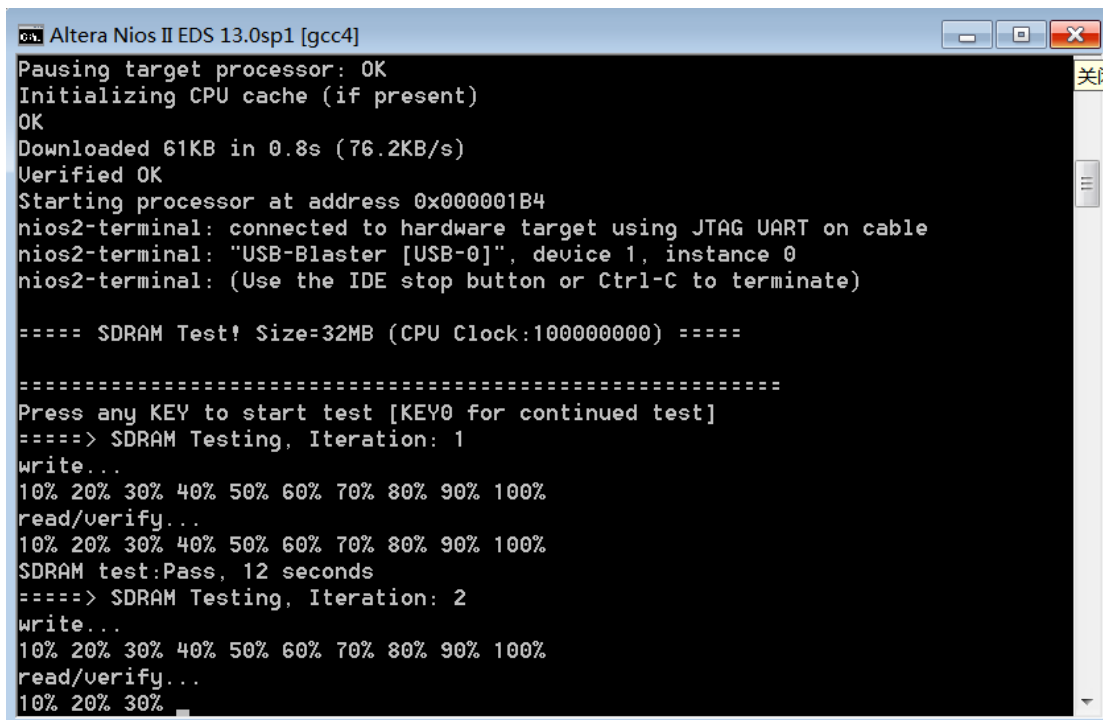

Figure 8-16 Display Progress and Result Information for the SDRAM Demonstration
- The program will display progressing and result information, as shown in **Figure 8-16**.